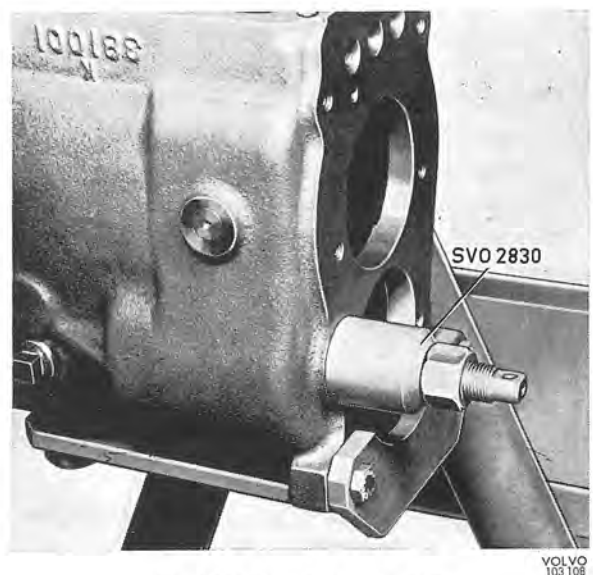

Fig. 4-24. Removing reverse shaft
11. Drive out the reverse shaft with puller 2830, see Fig. 4-24, and take out the reverse gear.